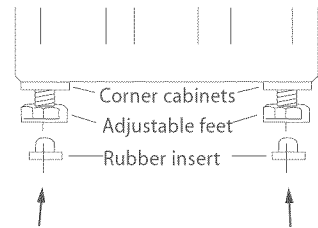

Fig.7 Adjusting leveling feet
- 1 Unscrew the feet so the machine is NOT sitting on the corner cabinets, then fit the rubber leveling inserts (Fig.7).